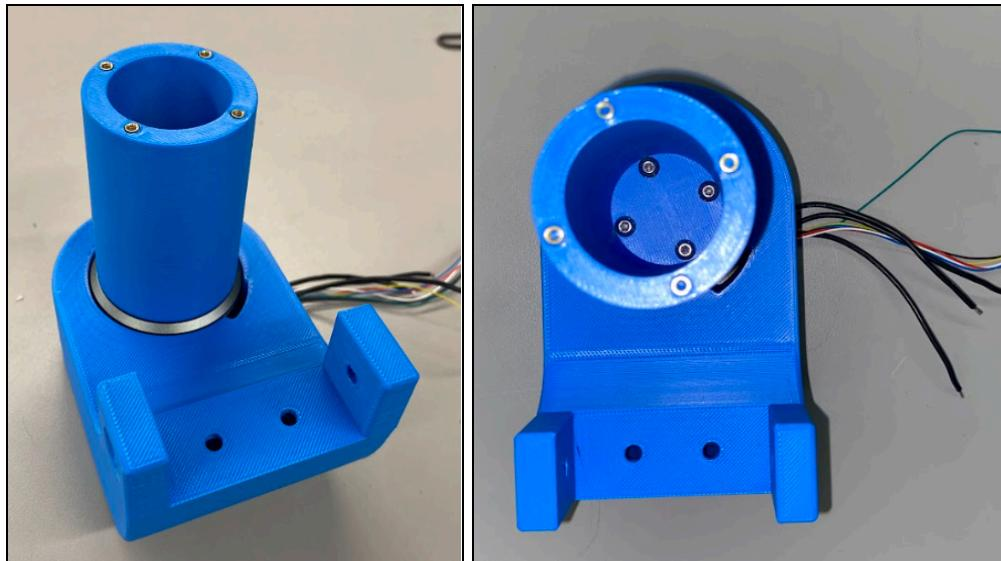

Figure 50: J5 Cylinder to J5 Motor
- Use 4 M3x5 mm screws and fasten the cylinder onto the face of this motor. See Figure 50.